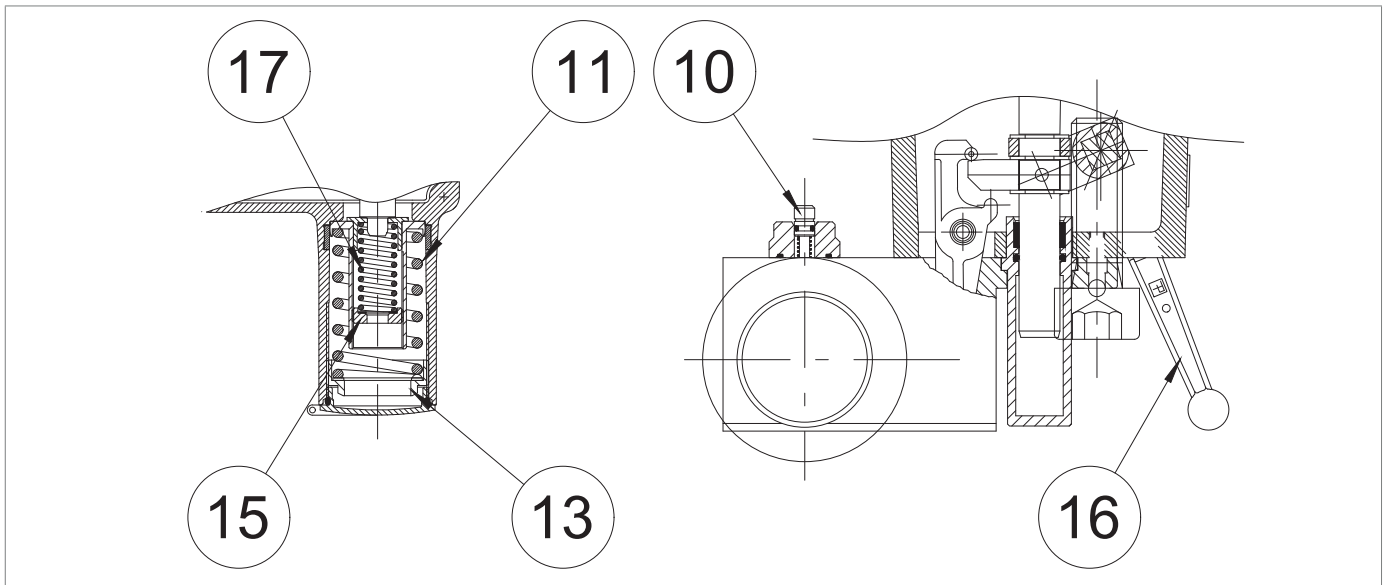

Fig. 8.38. Pressure switches models 102M/102MH - 105M/105MH
2	<p>Check that the slam-shut valve is in the shut-off position.</p> <p>! NOTICE!  If the slam-shut valve is in the open position, close it using the manual button (Fig. 8.38, ref. 10).</p>